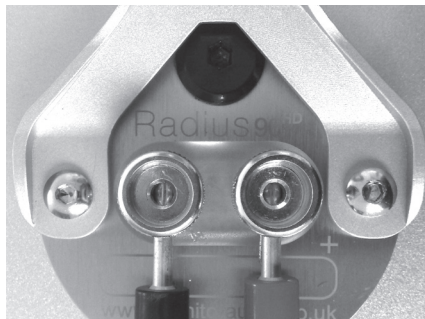

Figure 6.
5. Connect the speaker cables as in Fig. 6. Alternatively, you can use bare wire. Place the female ball part of the bracket over the male part, ensuring the slot in the female part lines up with the hole in the male part.